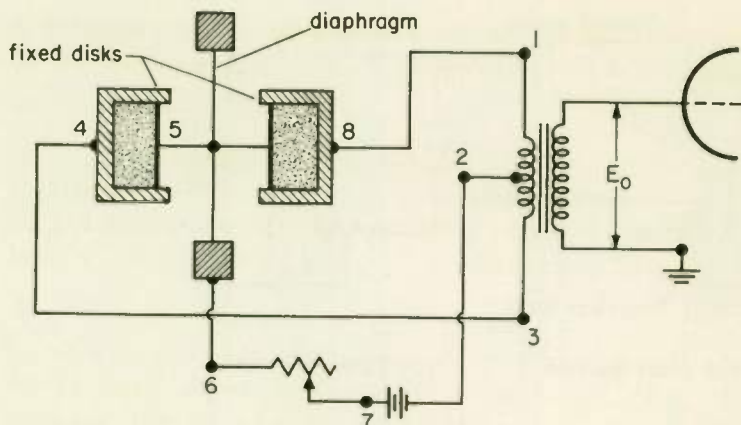

Fig. 22 Action of a double-button microphone.
This device is known as a *single-button microphone*. The word "button" refers to the "box" containing the carbon granules. Because of random changes in contact among granules, a continuous hiss is heard. To overcome this effect a *double-button* unit was developed. Its action is diagramed in Fig. 22. The push-pull action tends to balance out the hiss and any even-harmonic distortion. To obtain full advantage of the double-button action, it is necessary that the no-signal current for each button be balanced.
6. For proper operation of a double-button microphone the (a) _____ - _____ currents should be (b) _____. To check for this condition, milliammeters should be inserted in the circuit of Fig. 22 between points (c) _____ and _____ and points (d) _____ and _____.